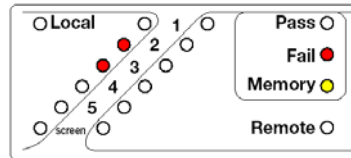

Fig 8. SHORT to an adjacent Pin.
a) A short was found, on the lower connector, where no connection existed before (Fig8.)